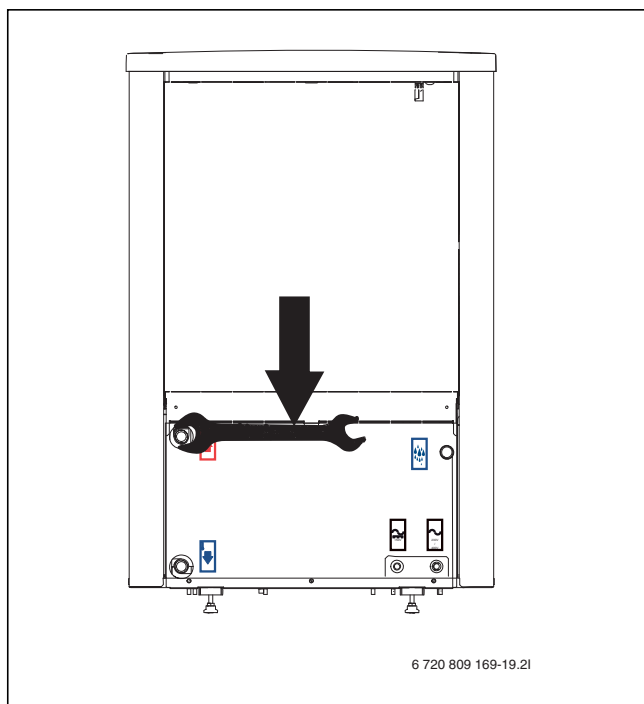

Fig. 14 Heat pump connections torque.
- ▶ Tighten the heat transfer medium pipe connections with a 120 Nm torque. Push down according to fig. 14 to avoid sideways pressure on the condenser.